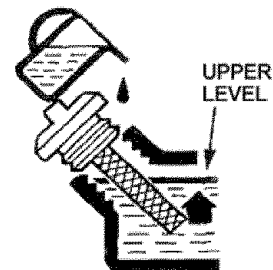

Figure 2- Adding oil
3. Using a funnel, add 20.2 fluid ounces of oil into the crankcase. You will know the crankcase is full when the oil level has reached the lower lip of the opening you have just poured the oil into (see figure 2).